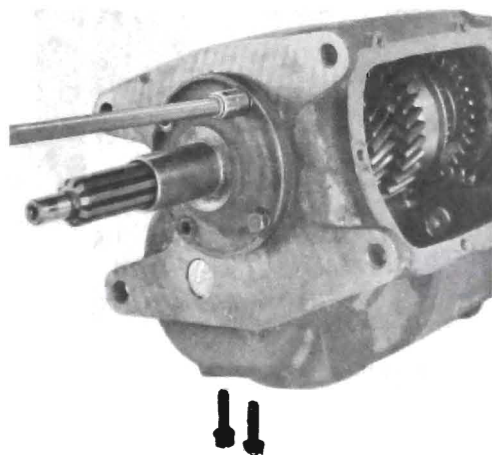

Figure 72-306 Removing Main Drive Gear Bearing Retainer Bolts
6. Remove main drive gear bearing retainer bolts (4) and lock washers (4), bearing retainer and gasket. See Figure 72-306.